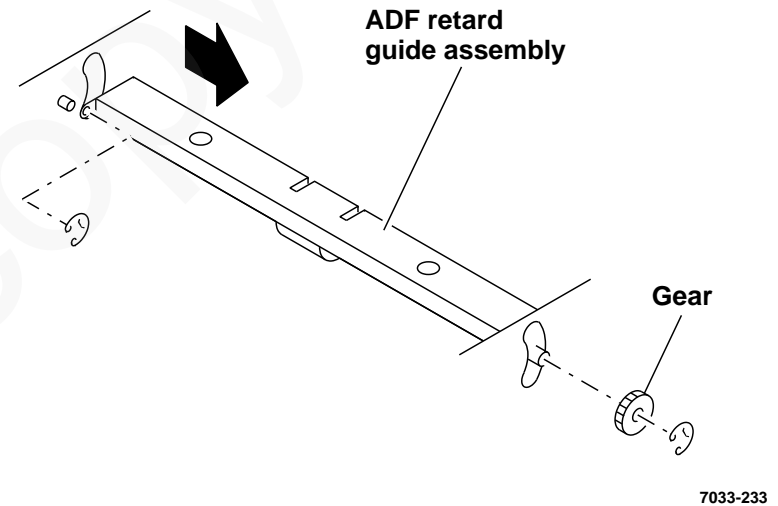

Figure 6. Retard guide assembly removal
- a. Remove E-ring and gear from front of retard guide assembly shaft (Figure 6).
- b. Remove E-ring from rear of retard guide assembly shaft (Figure 6).
- d. Slide assembly toward the front of the terminal until rear of assembly is removed from guide post (Figure 6), and then remove from terminal.